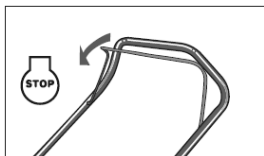

Fig.7
1. Release the stop control handle to stop the engine and blade. (Fig.7)